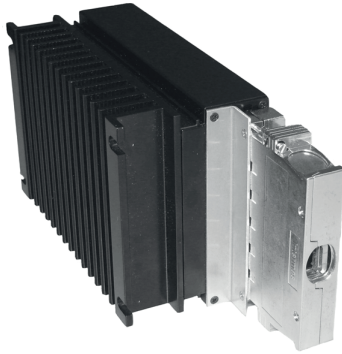

Fig. 47
- Different cable hoods for H15 connectors (fig. 47):